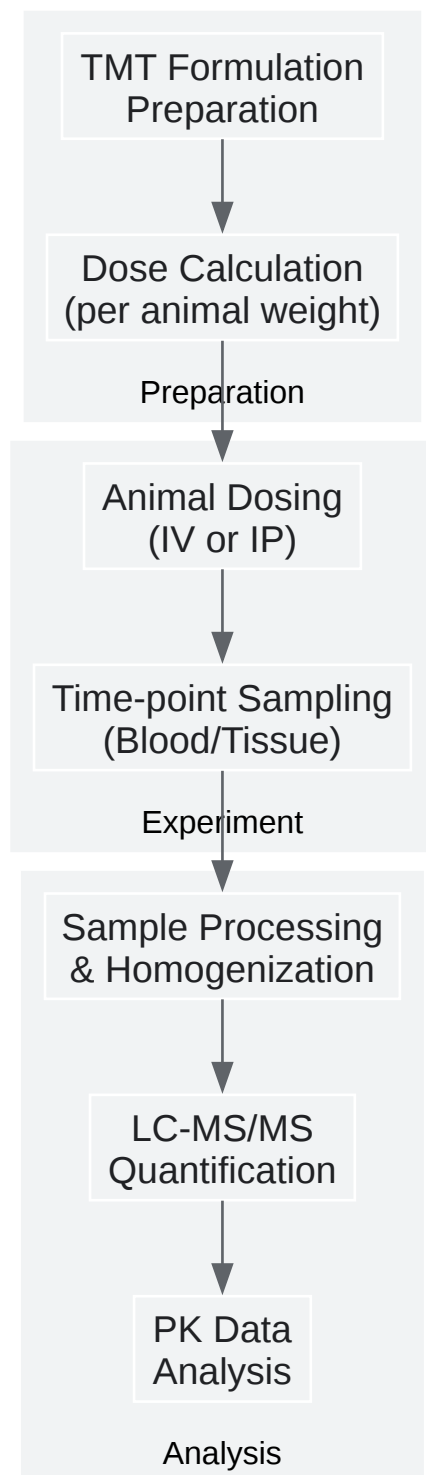

Figure 2. In Vivo TMT Dosing and Analysis Workflow
Caption: Figure 2. A standard workflow from TMT formulation to pharmacokinetic (PK) data analysis.